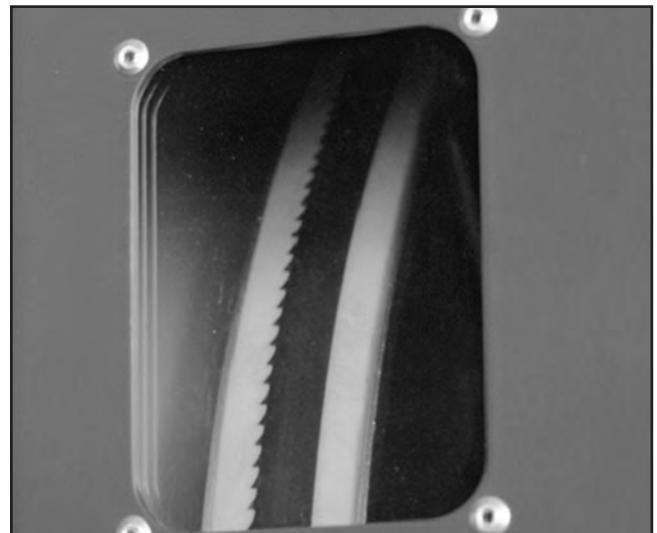

Figure 40. Blade tracking window.
2. Observe blade tracking path through clear window on right edge of bandsaw, as shown in **Figure 40**.